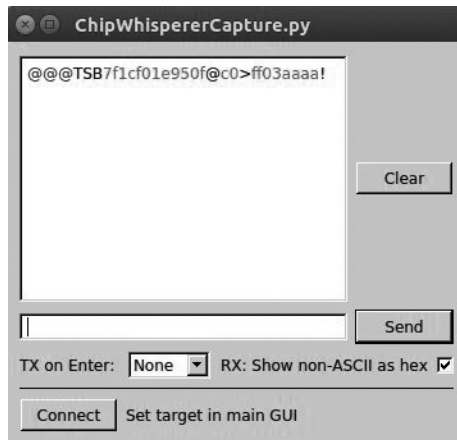

Figure 8-12: ChipWhisperer serial terminal
4. The ChipWhisperer comes with a simple serial terminal interface. Choose **Tools ▶ Open Terminal** to open it. You should see a terminal like the one shown in Figure 8-12.
5. Set TX on Enter at the bottom of the terminal to **None**, and check the box that says **RX: Show non-ASCII as hex** (see Figure 8-12). Now click **Connect** to enable your text areas.
6. Enter **@@@** (TinySafeBoot's start-up password) in the text field to the left of the Send button, and click **Send**. The bootloader should start with TSB and mainly contain information about the firmware version and AVR settings. TSB is just an identifier used by TinySafeBoot, most likely its initials. The output should match that in Figure 8-12.